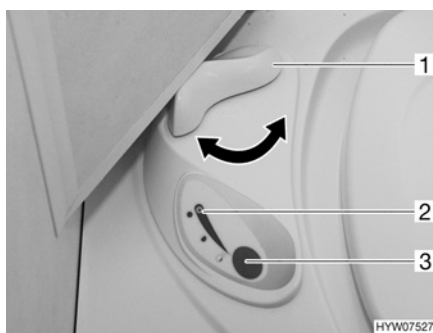

Fig. 116 Operating unit Thetford toilet
- Before flushing open the sliding trap of the Thetford toilet. To do this, turn the slide lever (Fig. 116,1) in an anticlockwise direction.
- For flushing, press the blue flush button (Fig. 116,3).
- After flushing close the sliding trap. To do this turn the slide lever (Fig. 116,1) in a clockwise direction.
The indicator lamp (Fig. 116,2) lights up whenever the Thetford cassette has to be emptied.
- Turn the slide lever (Fig. 116,1) in a clockwise direction. The sliding trap is closed. To empty, the sliding trap in the Thetford toilet **must** be closed.